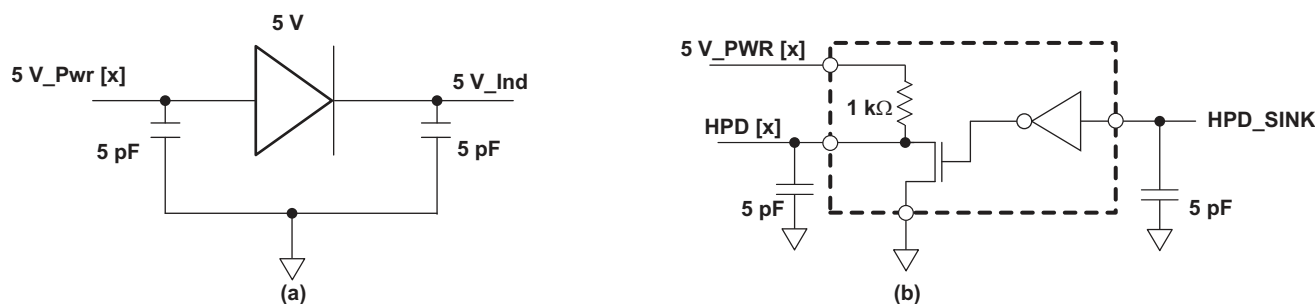

Figure 1. 5V\_PWR and HPD Test Circuit
**Hot Plug Detect:** The TMDS461 is designed to support the Hot Plug indication to the input ports. For the selected port, the state of the Hot Plug output (HPD[1:4]) follows the state of the Hot Plug input (HPD\_SINK). For the non selected ports, the state of the Hot Plug outputs follows logic state of 5V\_PWR. (See Table 1). HPD[x] are internally connected to 5V\_PWR[x] via 1K $\Omega$  resistor as shown in Figure 1(b). Thus even if the TMDS461 is powered off, HPD[x] will still follow 5V\_PWR[x]. When the HDMI transmitter does not have the capability of detecting the TMDS receiver termination, using the HPD signal as a reference for sensing port selections is the only possible method. Thus it is recommended that HPD\_SINK can be held low before port selection is done and then forced high after port selection, this ensures that HPD[x] of the selected port is pulsed High-to-Low at port selection before HPD[x] follows HPD\_SINK.